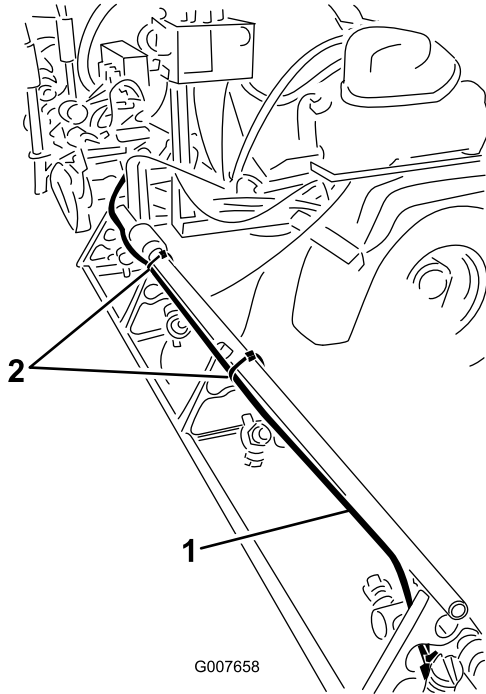

Figure 9
- On the right boom, install the foam hose along the rear side of the upper support pole (Figure 9).